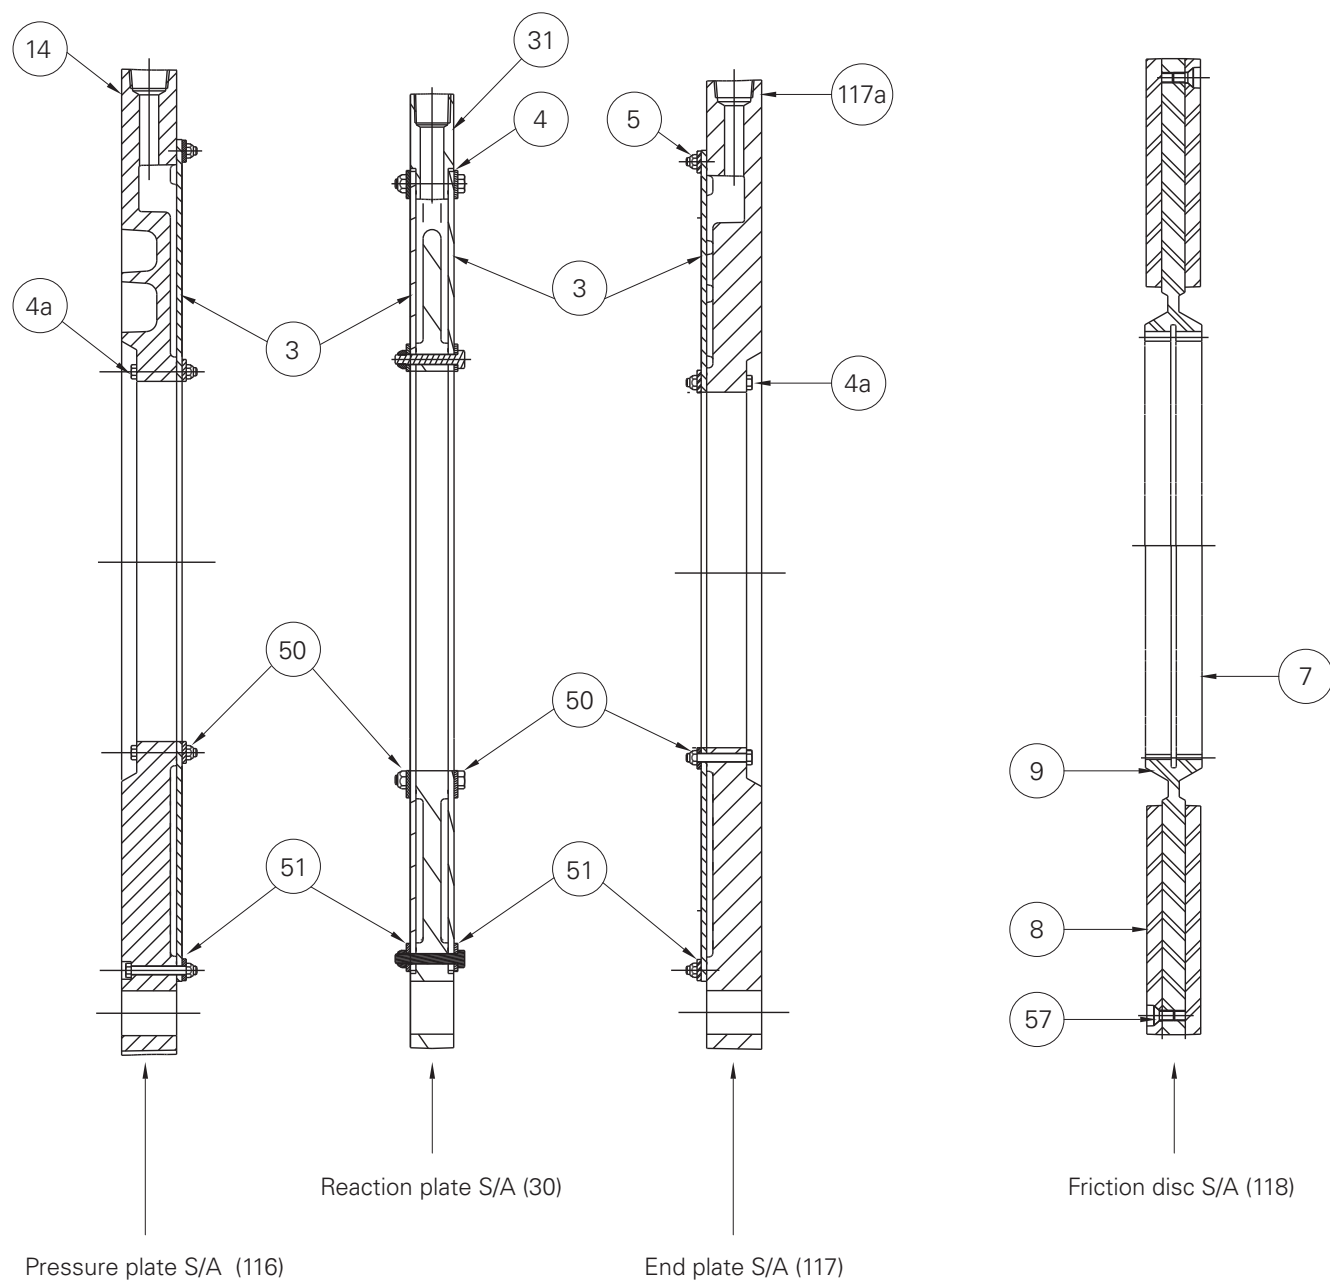

Figure 21
6.4.1 Parts Breakdown of WCSB Reaction Plate Sub-Assemblies (Item 30). Reference:Figure 21.
6.4.2 Parts Breakdown of WCSB Pressure Plate Sub-Assemblies (Item 116). Reference:Figure 21.
6.4.3 Parts Breakdown of WCSB End Plate Sub-Assemblies (Item 117). Reference:Figure 21.
6.4.4 Parts Breakdown of WCSB Friction Disc Sub-Assemblies (Item 7). Reference:Figure 21.